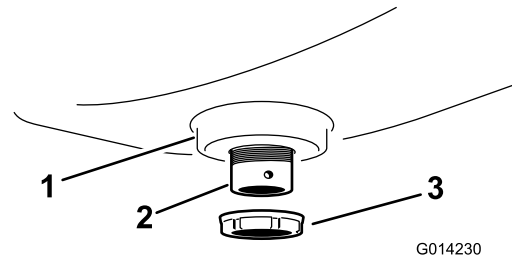

Figure 8
2. Secure the bulkhead fitting to the rinse tank with a plastic flange-nut (Figure 8).